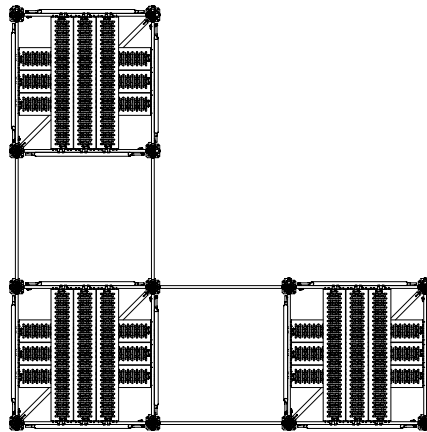

Fig. 12
- Connecting the scaffold assembly by means of Ledgers UH; alternatively, with scaffold tubes and couplers. (Fig. 12)